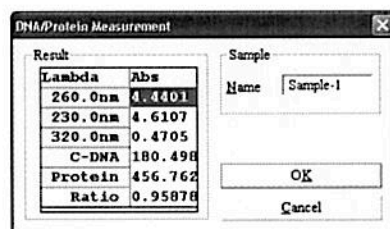

Fig. 4-46
5. Place a sample in the sample holder. Click **Start** or  to run a new measurement. The display will change to the following (Fig. 4-46).